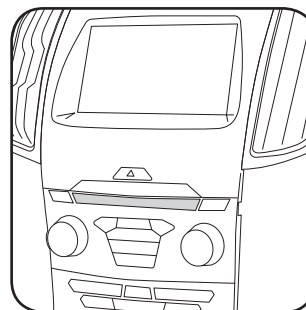

Fig. 3.7
7. Install the CD slot cover provided with the EDG2. (Fig. 3.7)